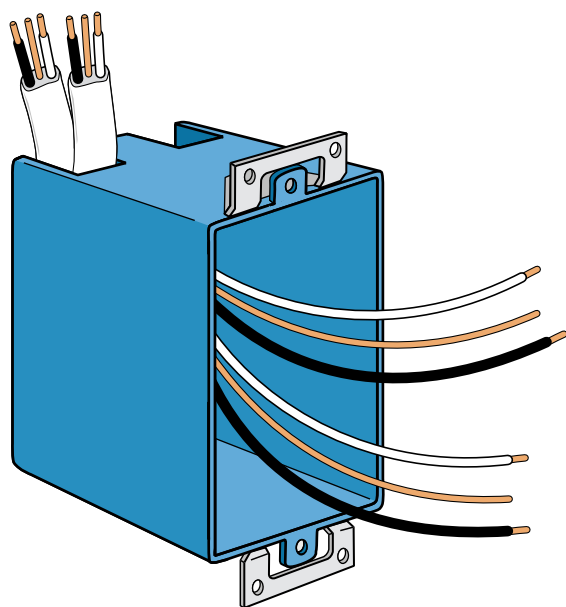

Figure 2-16 Multiple cables may run through a single knockout opening in a nonmetallic box, 314.17(C), Exception.
- *NEC*® 314.17(C): The exception allows multiple cables to be run through a single knockout opening in a nonmetallic box. This permission is not given for metallic boxes. See Figure 2-16.